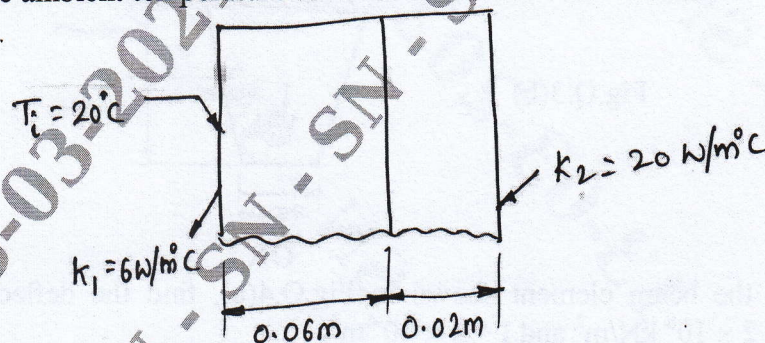

Fig.Q.10(b)
b. Determine the temperature distribution through the composite wall subjected to convection heat loss on right side surface with convective heat transfer coefficient as shown in Fig.Q.10(b). take ambient temperature as -5°C . (10 Marks)